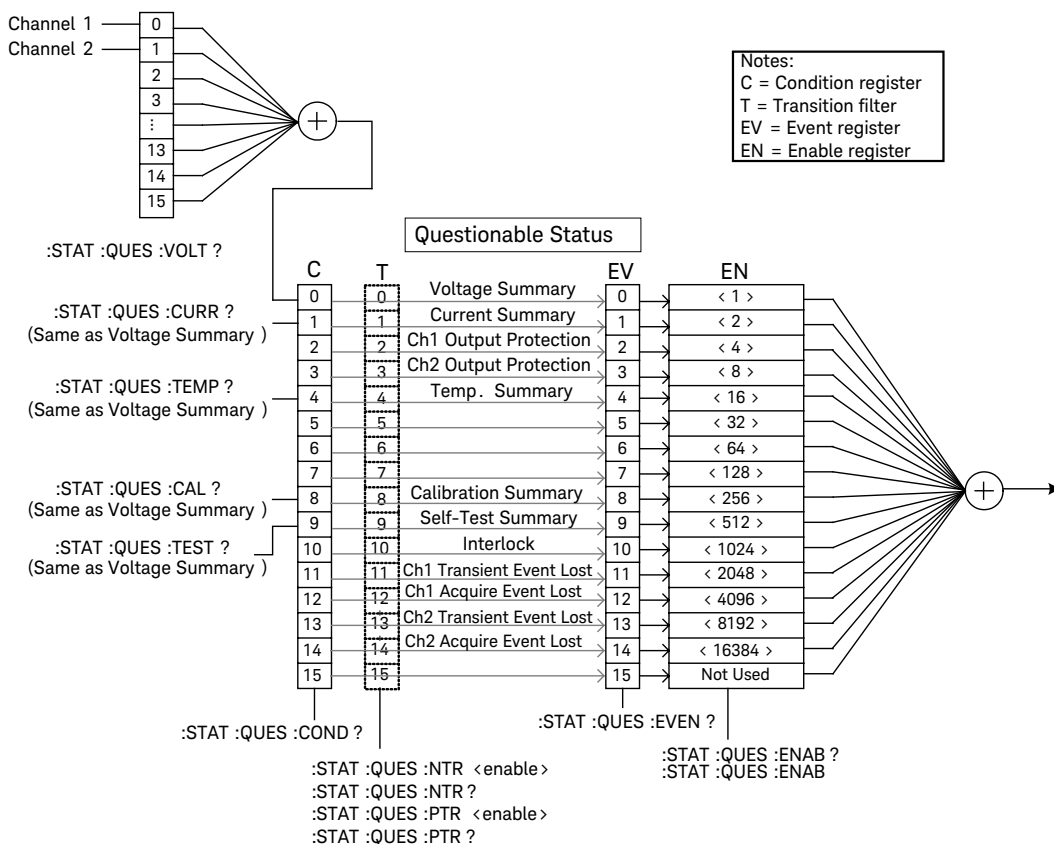

Figure 1-4
- Figure 1-4, “Standard Event Status register.”